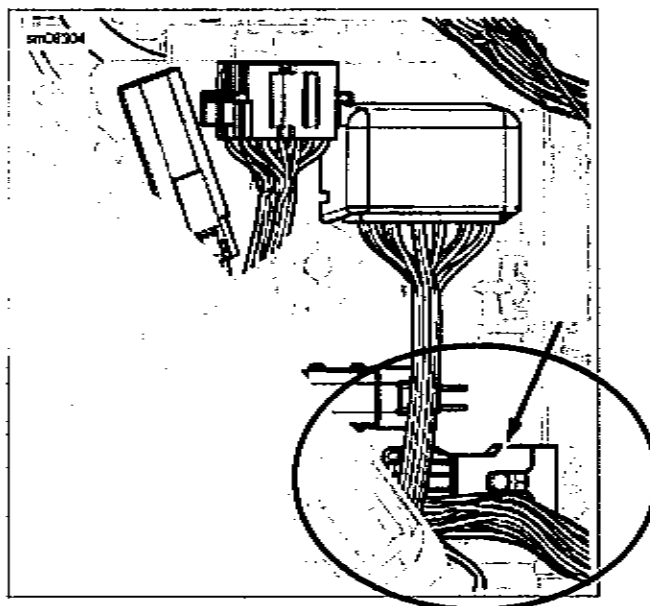

Figure 8-4. Main Fuse
2. See Figure 8-4. Remove main fuse.
1. See Figure 8-4. Install main fuse.